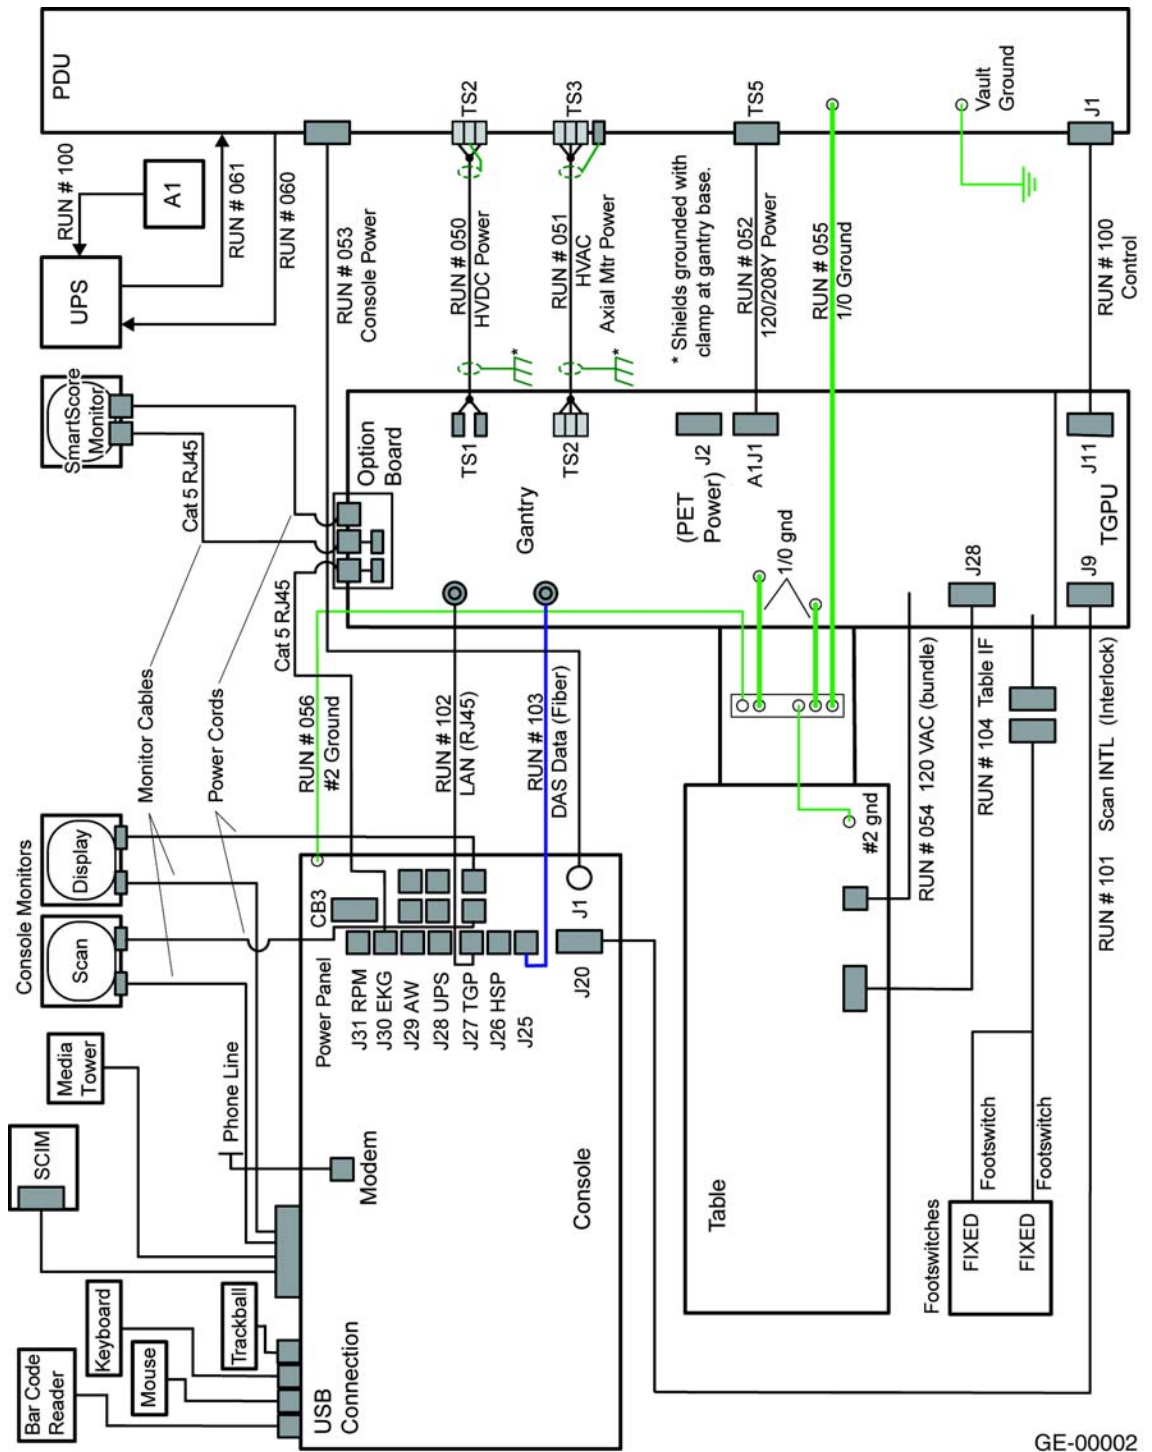

Figure 2-17 Console Power Connections
- 2.) Connect console component power cords as listed in Table 2-3. Plug LAN cables into the rear bulkhead on the console as shown in Figure 2-17.
The console is not shipped with all external power cables connected to their assigned power slots. Connect the monitor and media tower power cables as shown in Figure 2-17.
- 3.) System cable connections are located on the rear of the console. Connect as shown in Figure 2-17 below.